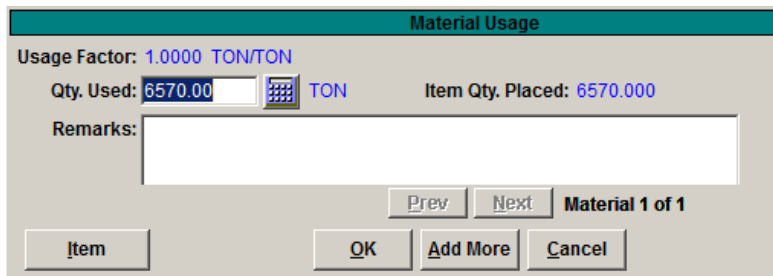

Figure 7-6a. Add IDR Window – Material Usage
- **Materials:** Click on this button when active. Confirm that the Qty. Used is equal to the Item Qty. Placed. Click the **OK** button to return to the posting (Figure 7-6a).